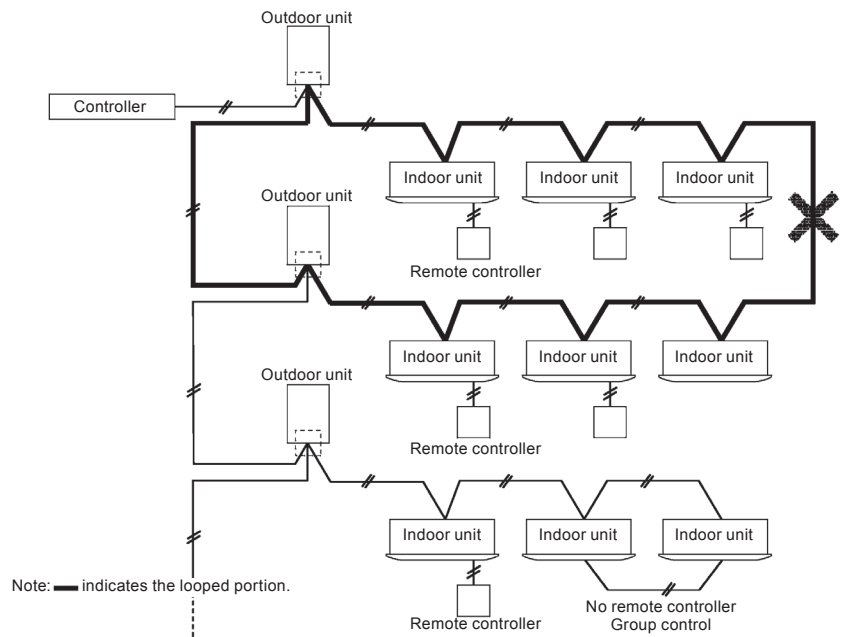

Figure 10
- Loop wiring is prohibited. (Figure 10)
⑥ Loop wiring is prohibited. (Figure 10)